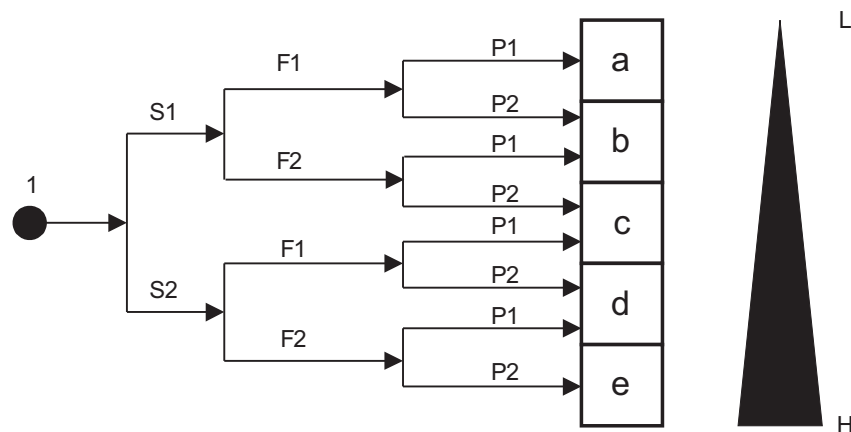

Figure 1: Risk graph in accordance with DIN EN ISO 13849-1
The risk graph from DIN EN ISO 13849-1 is depicted in Figure 1. In assessing the risk, it is assumed that no safety components have been installed. The risk is assessed according to the severity of the injury (S), the frequency or duration of the exposure (F) in the danger area and the possibility of avoiding the hazard or limiting the damage (P). The required performance level for each safety application results from the classification of the specified parameters. It presents a measurement for risk reduction.